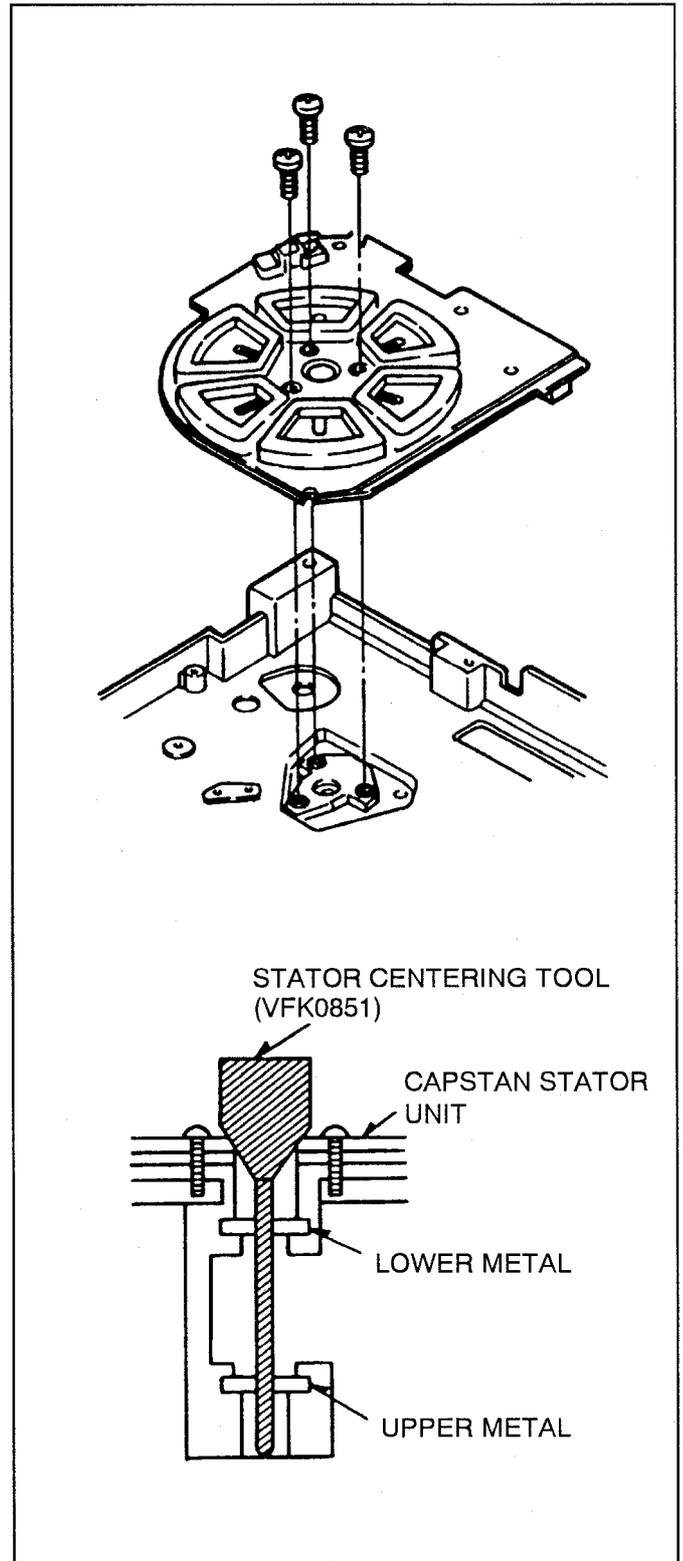

Fig.S10
- 3) Insert the Stator Centering Tool (VFK0851) as show in Fig.S10.